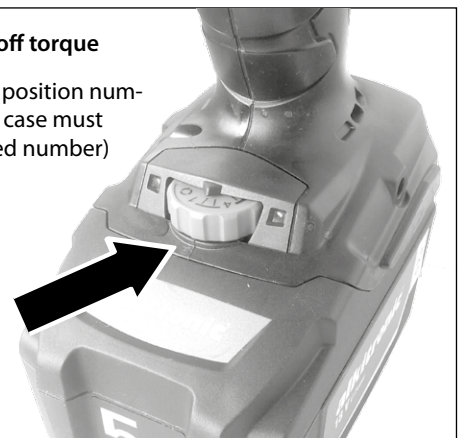

Fig. 1
In the torque table each position number is assigned a respective torque. The shut-off torque is set by means of the setting wheel (SR) using the position number (1-11) (Fig. 1).